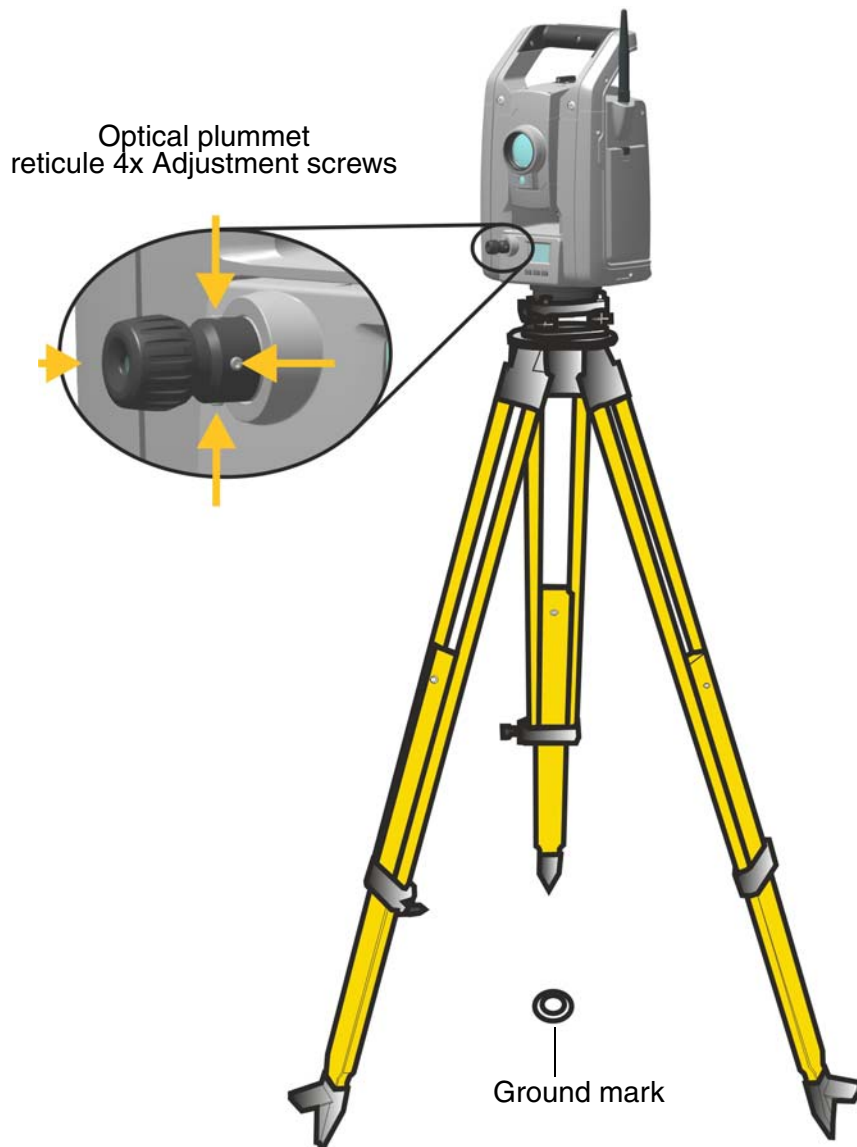

Figure 4.10 Optical plummet adjustment
1. Set up the instrument and level it over a ground mark so that the tripod height is 1.5 m (± 0.1 m) (4.920 ft. (± 0.328 ft.)). *Figure 4.10*